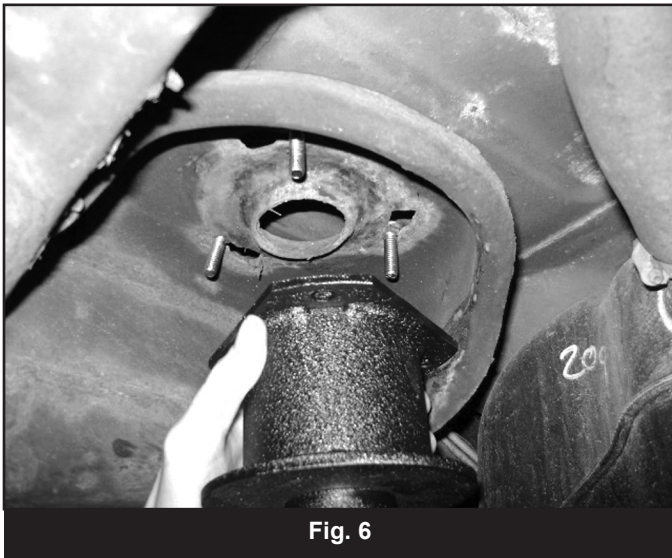

Fig. 6
18. Install the 5/16" carriage bolts from the top down through the openings at the upper coil mount. (Fig 6)
22. Loosely install the provided track bar relocation bracket to the axle with a 9/16" x 3-1/2" bolt, nut and 9/16" SAE washers from bolt pack #550 through the original track bar mounting hole (Fig 6).